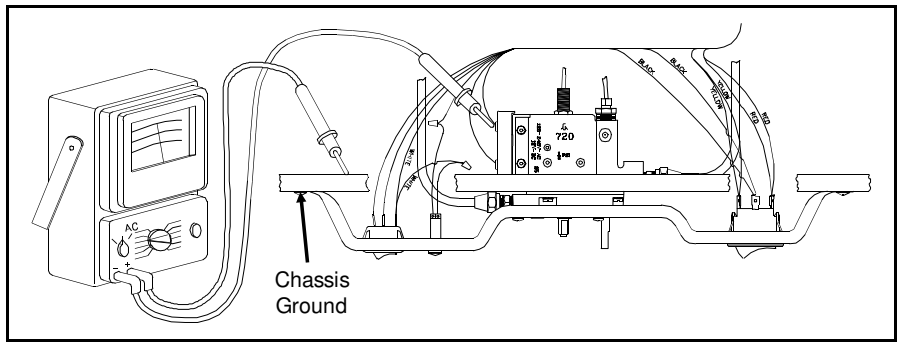

Figure 3.37 120 Volt Check of Combination Control Switch
8. Check for 120 Volts at each terminal to ground of the combination control as illustrated in Figures 3.37 and 3.38. Normal readings should show 120 Volts on both terminals.